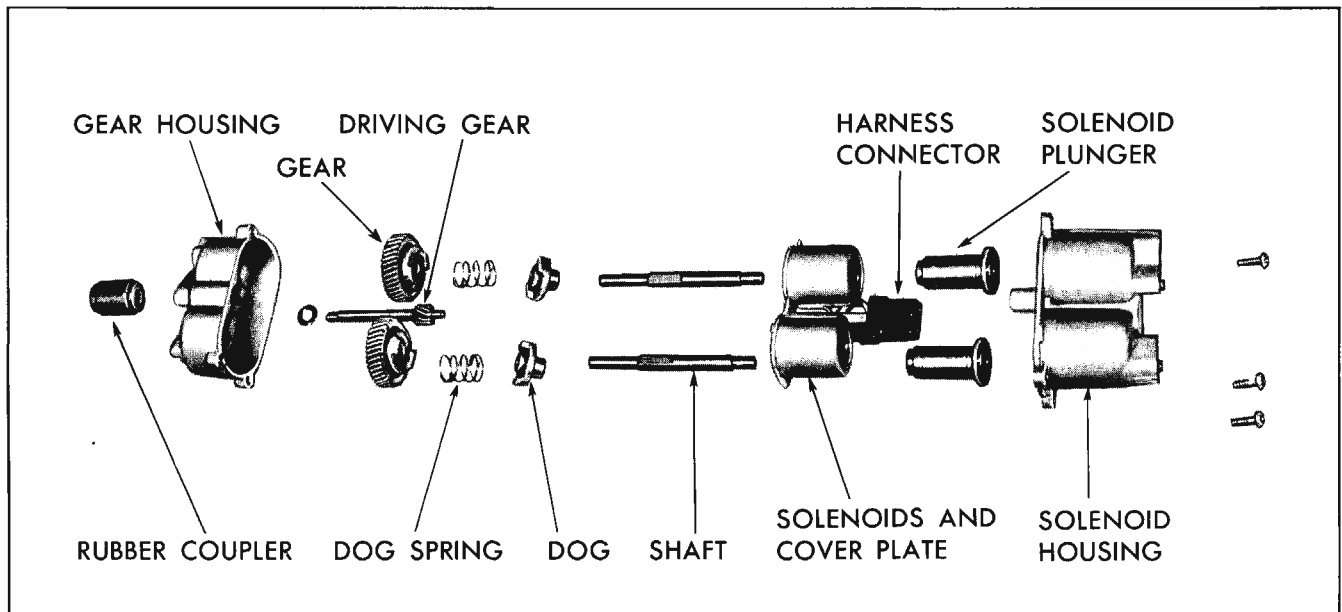

Fig. 16-82 Four-Way Seat Transmission
2. Remove screws securing gear and solenoid housings together; then, carefully separate housings and remove component parts of transmission assembly. (Fig. 16-82)